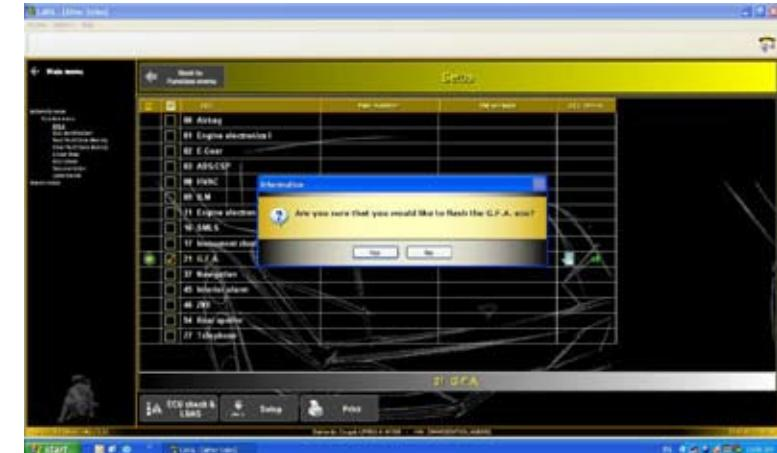

Fig.113
- Once the check has finished, regardless of the outcome, the system will ask you whether you want to carry out the update; select "YES" (Fig.113) to carry out the update.